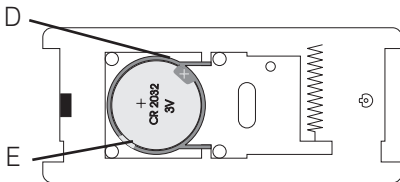

Figure 4: Battery compartment call-pushbutton
- d) Insert the battery (coin cell CR 2032) into the plastic support on the PCB (fig. 4 D).
- e) If you would like to replace a battery, remove the old one with a small flat screwdriver from its plastic support by lifting the edge slightly (fig. 4 E). Afterwards you can insert a new battery. Please ensure correct polarity of the battery.